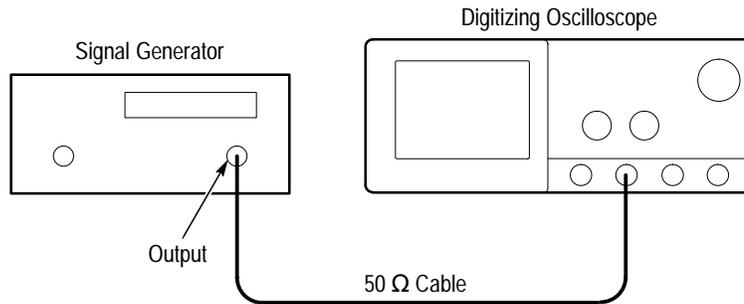

Figure 4-31: 60 Hz Rejection Test Hookup
- Connect the output of the signal generator to the CH2 input through a 50  $\Omega$  cable. See Figure 4-31.